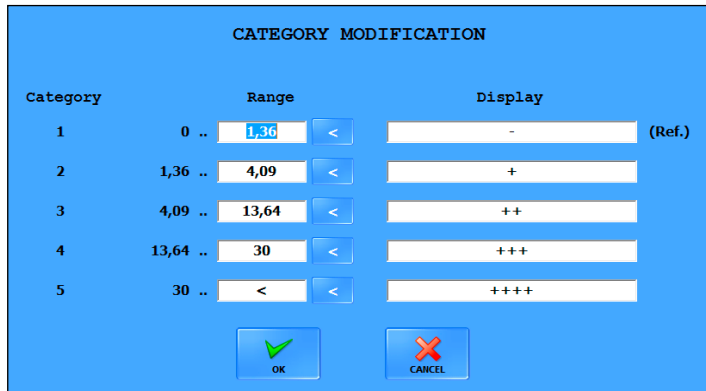

Figure 25. The Category modification dialog box
9. Double-click on the particle class row that you wish to modify to display the **Category modification** dialog box (see Figure 25)